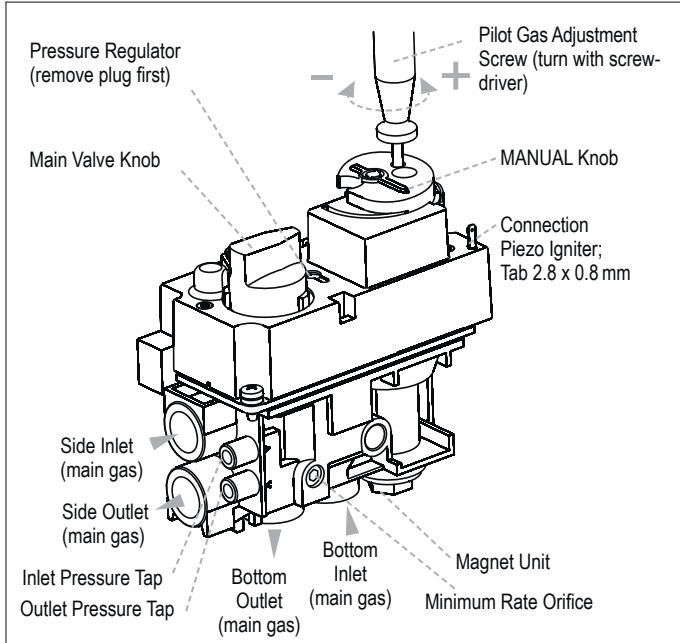

Figure 14: GV60, Connections and Adjustment Options
Gas control knobs function as follows (see figure 14):
- The adjustment screw can be reached through a hole in the MANUAL knob (see figure 14).
- Pressure regulator or throttle are located under the cover and can be reached by removing the plug (see figures 14 and 16).